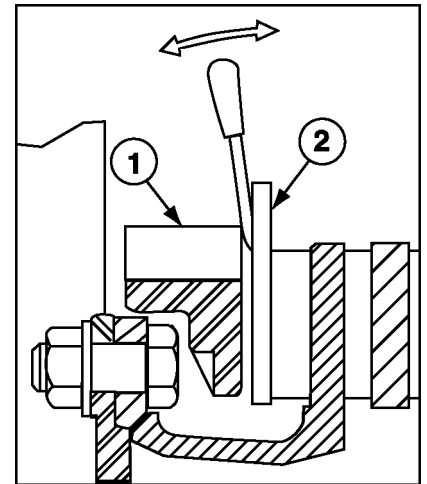
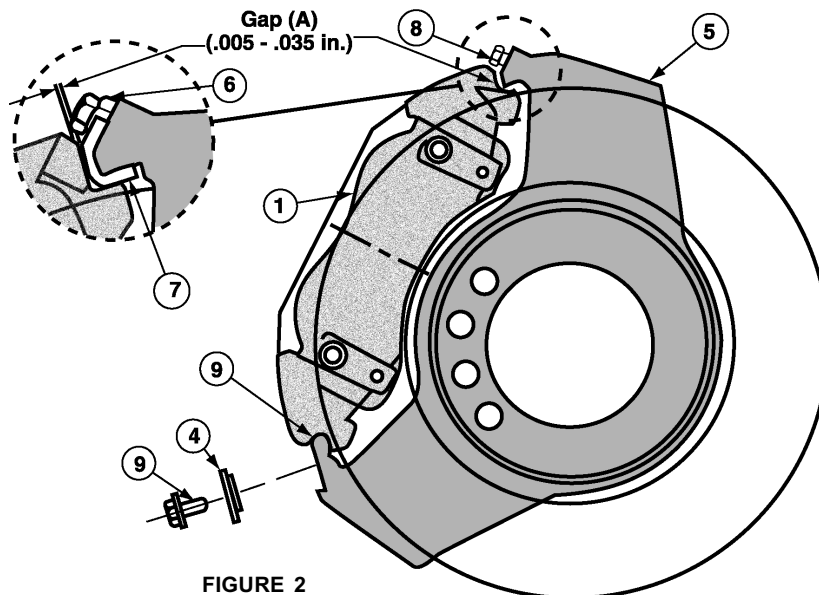

FIGURE 1
FIGURE 2
- A. Place screwdriver or other suitable tool in between caliper ① and outboard lining plate ② as shown in Figure 1. Apply light pressure in direction of arrows to force pistons back slightly from the rotor. Remove screwdriver.
- B. Remove bolts ③ and spring assembly ④.
- C. Remove bolt ⑥ and retainer ⑦.
- D. Lift caliper ① up and off support rail ⑤. Do not let the caliper hang on the hydraulic hose. Lay the caliper on suspension or support it with a length of wire.
- E. Wire brush support rails ⑧ and ⑨. Wire brush rail surfaces of the caliper.
- F. Reinstall caliper ① on support ⑤.
- G. Reinstall new retainer ⑦.
- H. With the caliper ① in place on the support ⑤, pull out the top end of the caliper as if to remove it from the support. This will open up a gap (A) between the caliper rail and the retainer ⑦. See Figure 2.